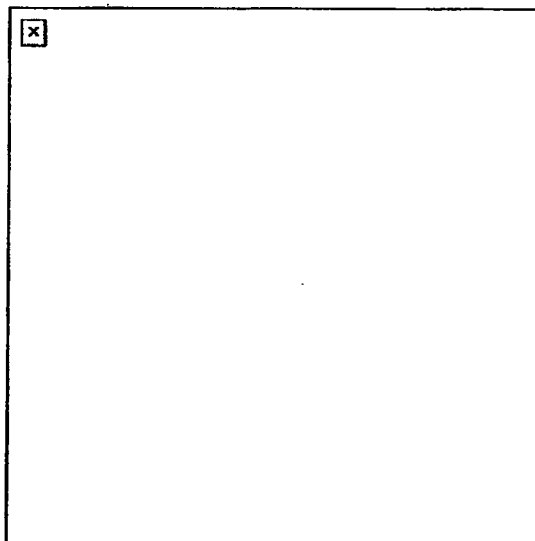

Figure 17. Attachment of the round positioning block.
- (1) Turn the receiver upright.
- (2) Rotate the charger handles to the straight-up position.
- (3) Line up the lugs on the charger with the slots in the receiver rail. Insert the charger lugs into the slots.
- (4) Hold the charger tightly against the rail. Slide the charger forward until it locks into place.
- b. Attach the round positioning block (Figure 17).